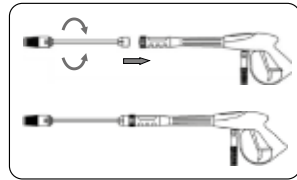

FIGURE 8.7
6. Connect the spray nozzle to the prior set (Figure 8.7)